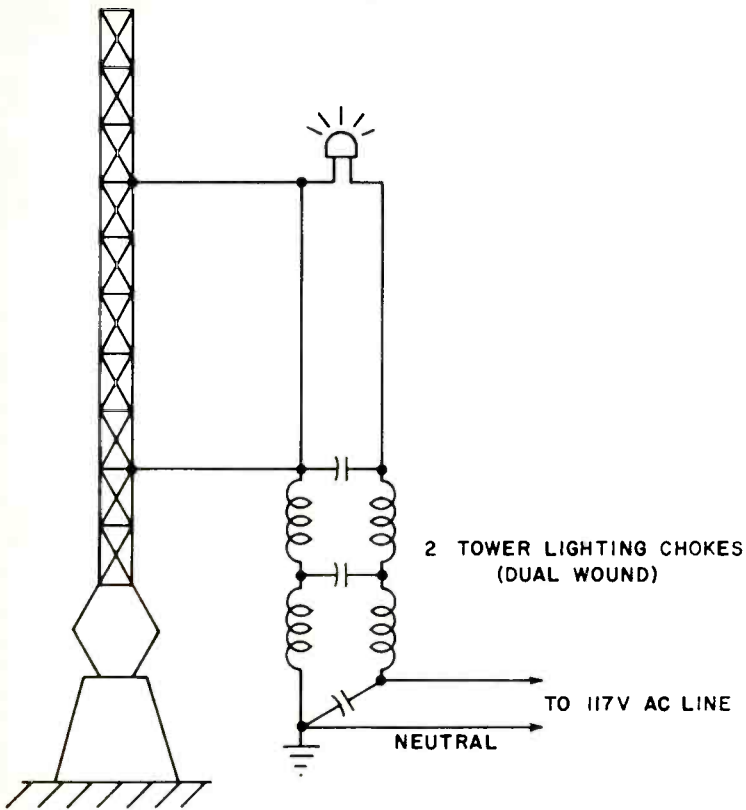

Figure 2—Tandem choke tower lighting isolation.
2. Sometimes two of these chokes are used in tandem. A schematic of tandem chokes is shown in Figure 2. It will be noted that the neutral side of the tower light is shown tied to the tower so that the tower isolation choke functions as a static drain choke.